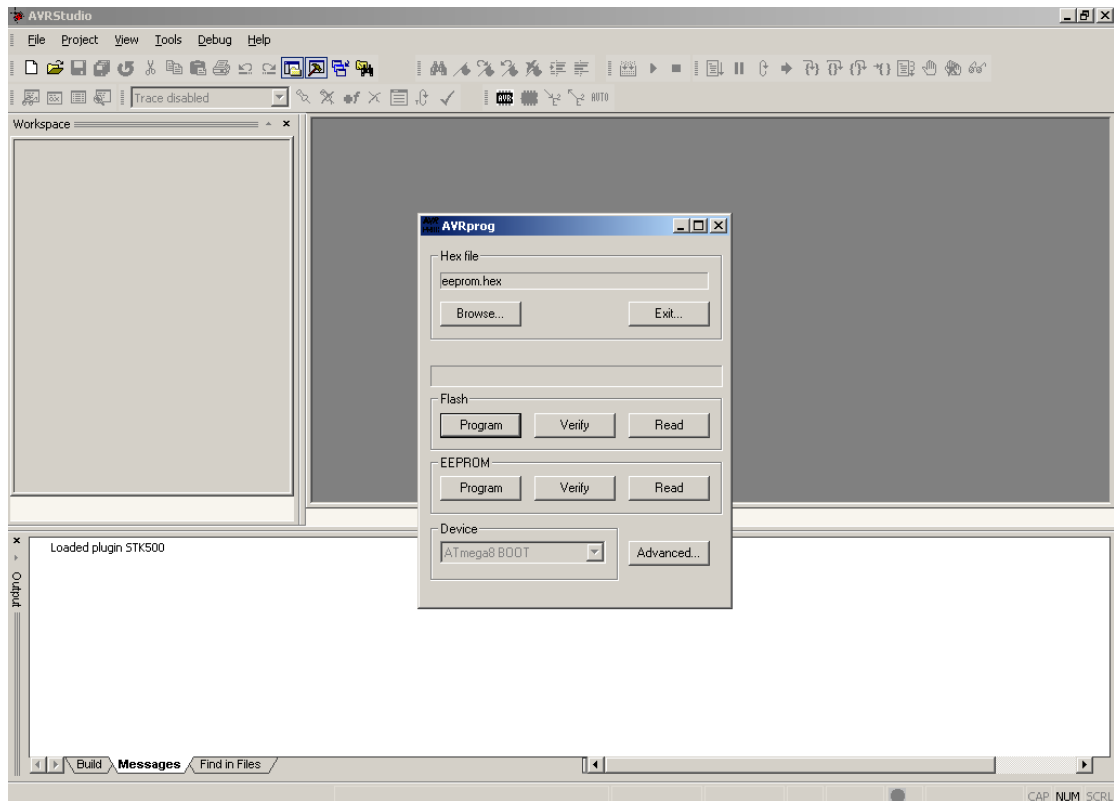

Figure 16: AVRprog bootloader Window
5. Reset CC2400DB and hold the Joystick Center push button down after reset and start AVR Prog, bootloader will start (See figure 16)